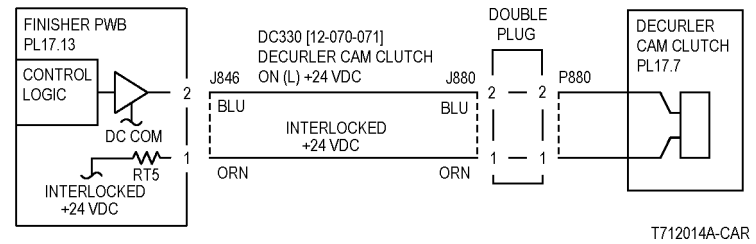

Figure 5 Decurler Cam Clutch CD
Press Stop. Check the circuit of the Decurler Cam Clutch (Figure 5). Refer to OF 99-4 RAP for troubleshooting procedure.
- Ensure that the connectors shown in the circuit diagrams (Figure 4, Figure 5, Figure 4, Figure 5) are securely connected and that the wires are not damaged.
BSD-ON:12.5 **Figure 5**
BSD-ON: 12.5 Figure 5